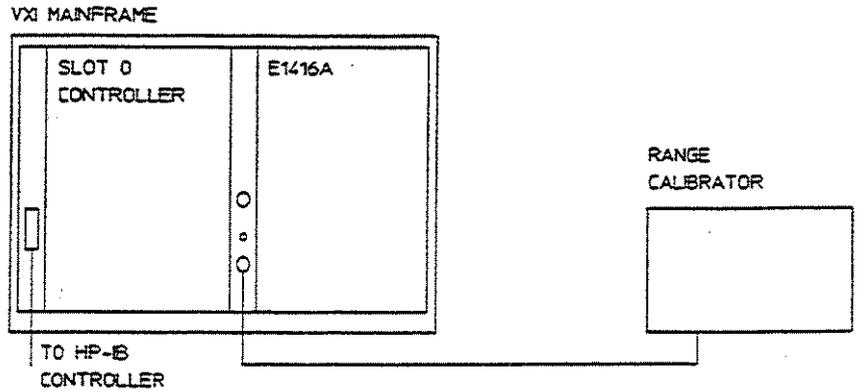

Figure B-1. Zero Carryover Test Setup
**Procedure** 1. Connect the equipment as shown in Figure B-1, and switch on all the equipment.